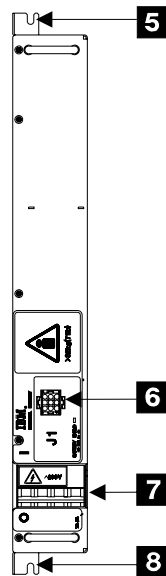

Figure 73. 350 V Battery Removal (t007155m)
3. On the 350 V battery you are replacing, set the circuit breaker (CB), **7** in Figure 73 on page 87, to Off (O, down).